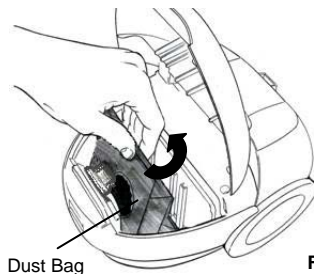

Fig. 17
3. Then pull up on the cardboard collar and gently lift the bag out of the compartment. (Fig. 17)